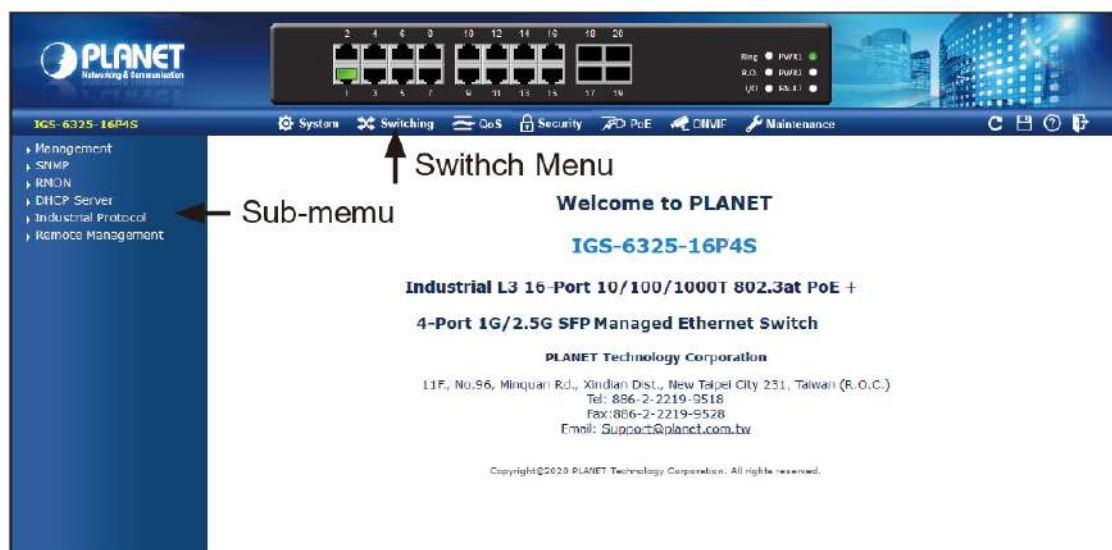

Figure 5-3: Web Main Screen of Industrial Managed Switch
3. After entering the password, the main screen appears as shown in Figure 5-3.